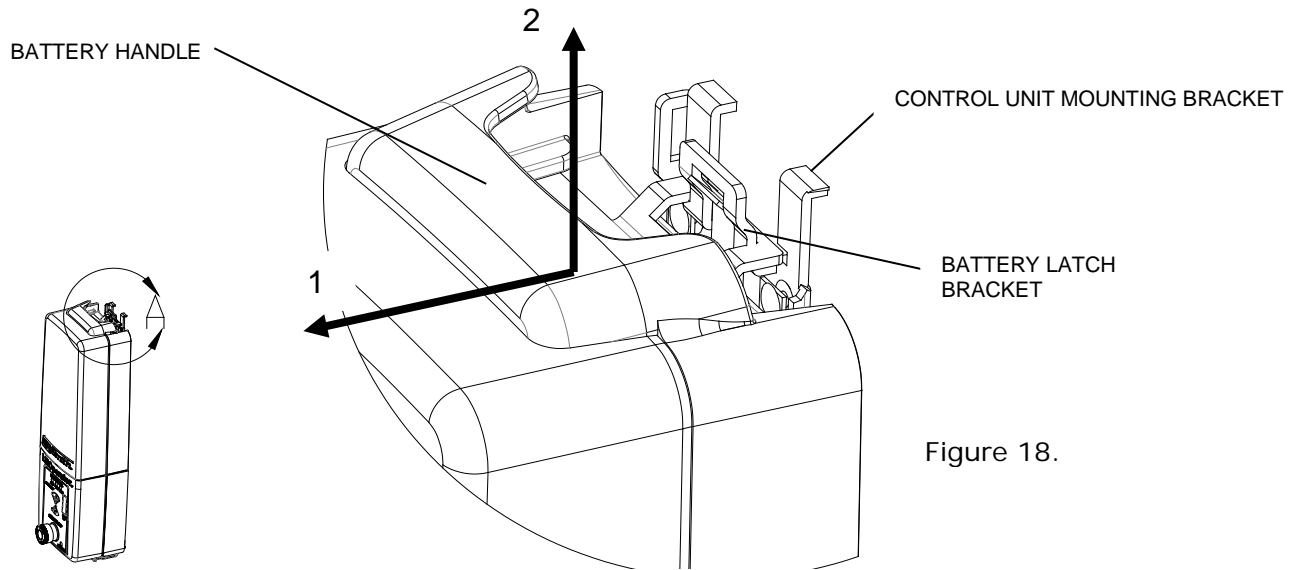

Figure 18.
24. Attach battery to LiftOperator Control Box making sure that the battery latch bracket locks into the slots on the control unit mounting bracket. To remove the battery from the control unit, pull outward on the battery handle until the battery latch bracket clears the slots in the control unit mounting bracket, then pull upward, see Figure 18.